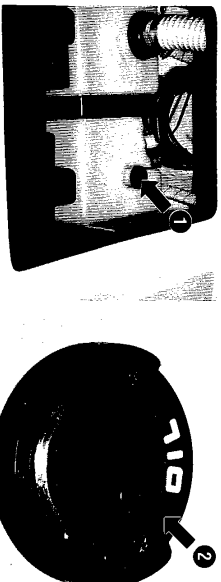

Figure 6
The 2150 Outboard single engine has a tank that holds the lubricant. The tank is in the port aft compartment (1). See figure 6. The lubricant is automatically measured into the fuel line. For the recommended lubricant and fill location, read the manual for the engine.
To add the lubricant to the tank, remove the oil fill cap (2). See figure 6. Pour the liquid into the opening. The oil fill cap is on the port aft side of the boat.